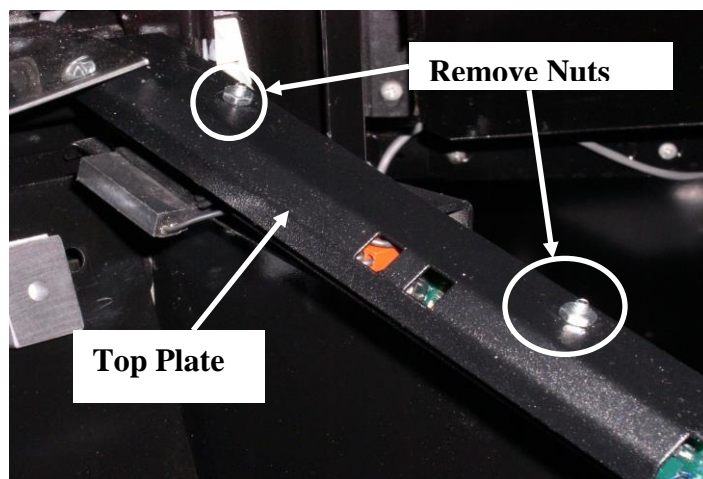

Figure 4 (Typical representation)
6) Top plate of sensor bracket must be removed before 4-pin harness can be plugged into sensor board. Remove two nuts from top of sensor bracket and lift off top plate from sensor bracket. Plug 4-pin harness into sensor board and replace top plate. Reinstall two nuts and tighten. (Figure 4).